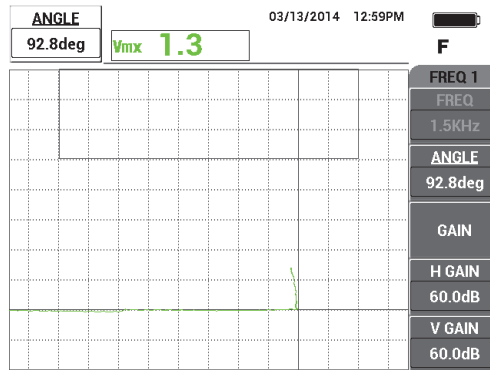

Figure 5-94 Adjusting the lift-off angle to horizontal
- 8. Press the ANGLE key (), and then adjust the lift-off angle so that it is horizontal (see Figure 5-94 on page 194).